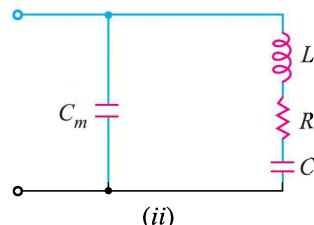

Fig. 14.21
- (i) When the crystal is not vibrating, it is equivalent to capacitance  $C_m$  because it has two metal plates separated by a dielectric [See Fig. 14.21 (i)]. This capacitance is known as *mounting capacitance*.
- (ii) When a crystal vibrates, \*it is equivalent to  $R - L - C$  series circuit. Therefore, the equivalent circuit of a vibrating crystal is  $R - L - C$  series circuit shunted by the mounting capacitance  $C_m$  as shown in Fig. 14.21 (ii).